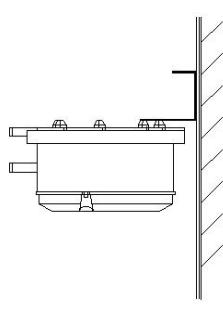

Fig. 3
- When installation as Fig. 3 is necessary , the switch value should minus about 10pa.